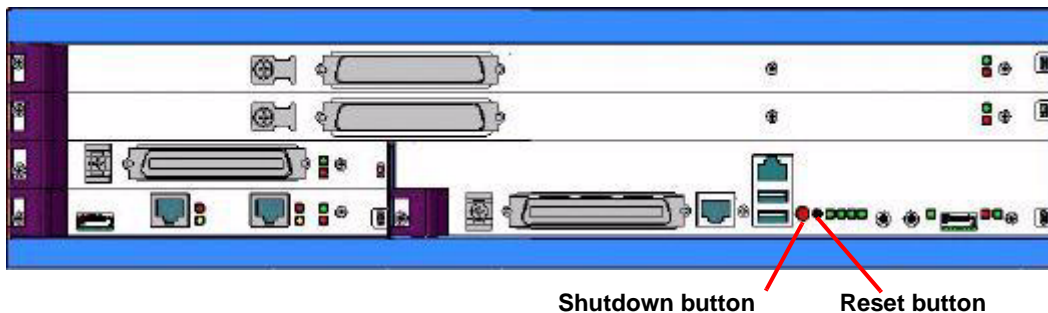

Figure 3-1 Shutdown and Reset buttons
The Shutdown button is the red button located on the front of the ISC1/ISC2, as shown in Figure 3-1 and Figure 18-1.
2. Press the Shutdown/Power Off button on the ISC1/ISC2, as shown in Figure 3-1 and Figure 18-1, and hold for four seconds, then release.
The Reset button, as shown in Figure 3-1 and Figure 18-1, is located on the front of the Wave Server chassis.